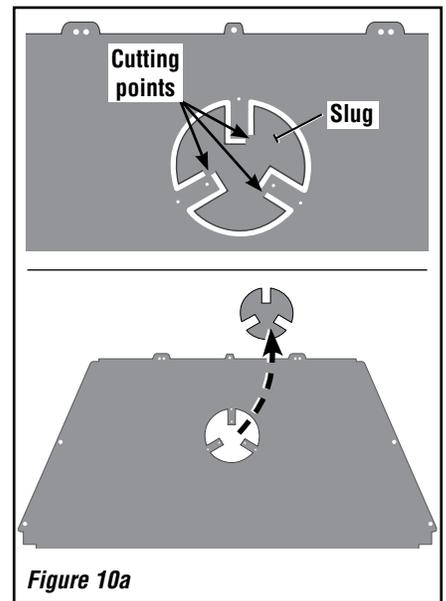

Figure 10a
1. Using tin snips, cut the three connecting points securing the slug to the three tabs in the flue collar (as shown in **Figure 10a**), and remove the slug.